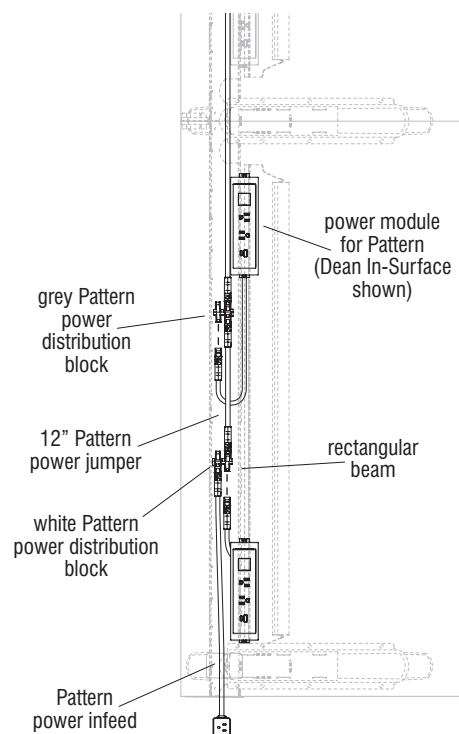

Figure 6
1. Route the connector end of each module toward an available power distribution block on the Pattern electrical system inside the wire trough. Repeat step 1 to route the remaining power modules from the other tables to an available power distribution block (Figure 6 & Details F & G).